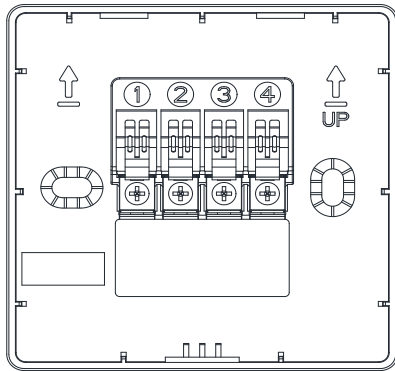

Fig 2
(1) Fig.2 is the base diagram.